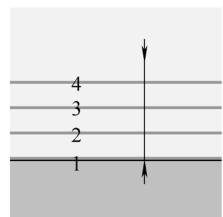

图 2-98 “Number of levels and total depth”
- “Number of levels and total depth”: 通过输入切削层数“Number of levels”和整个切削深度来确定多层切削, 如图 2-98 所示。